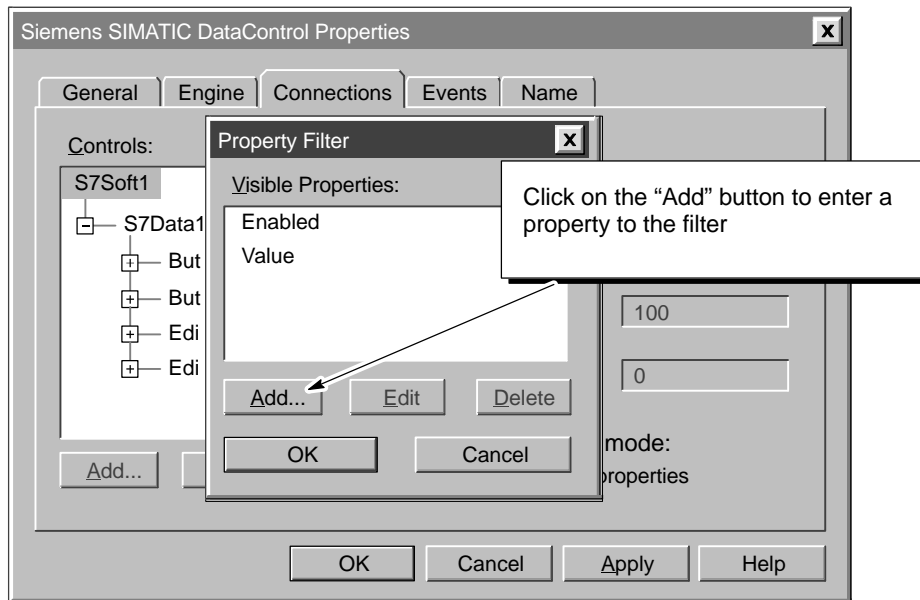

Figure 5-10 Data Control Properties (Connections Tab)
3. As shown in Figure 5-10, enter the properties to display and click on the “Add” button. Use the “Edit” button to correct entries and the “Delete” button to remove entries.